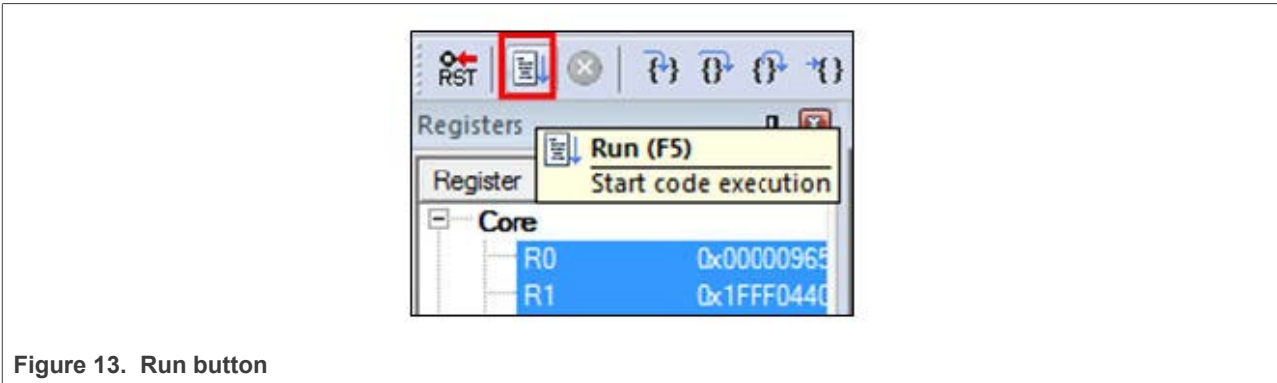

Figure 13. Run button
5. Run the code by clicking **Run** to start the application, as shown in Figure 13.